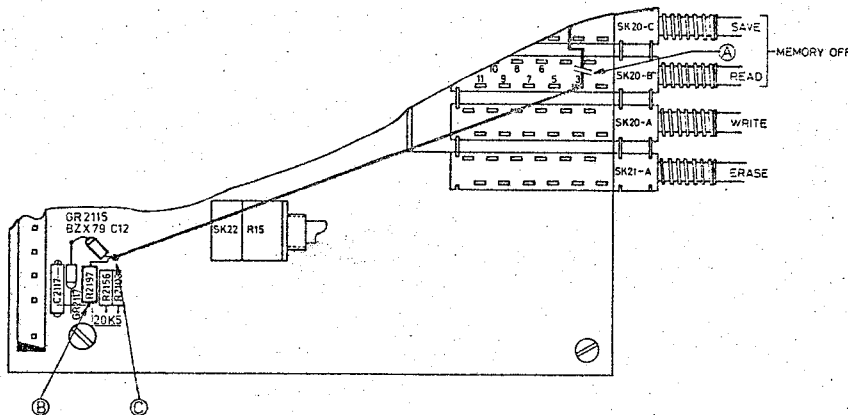

Fig. 1. Part of variable persistence and storage unit.
2. Interrupt the track (on the track-side of the p.w.b.) between point 3 of SK20B (READ) and the anode of GR2117 as indicated in fig. 1 (A)
4. Solder one side of a resistor of 20k Ω (5322 116 55255) on the point, which is connected with C2117 as indicated in fig. 1 (B) (on the component side of the p.w.b.)
5. Solder between the resistor of 20k Ω and the anode of the zenerdiode GR2117 a zenerdiode (GR2115) BZX 79 C12 (4822 130 34197). The cathode of GR2115 to the anode of GR2117 (see fig. 1)
6. Mount an interconnection wire between the anode of GR2115 (fig. 1 (C)) and point 3 of the switch SK20B (READ)